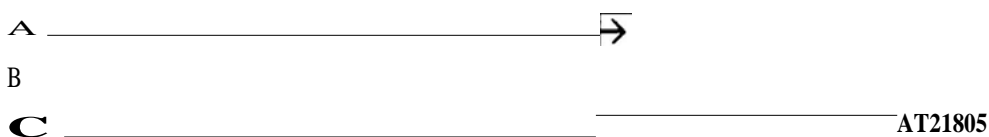

Figure 2-152. Carrier surgical light harness.
(2) Disconnect two shell connectors from surgical light.
(3) Remove ground wire from surgical light by removing screw, lock washer, and nut.
b. Repair. Repairs shall be made in accordance with TB ORD 650 (fig 2-152).